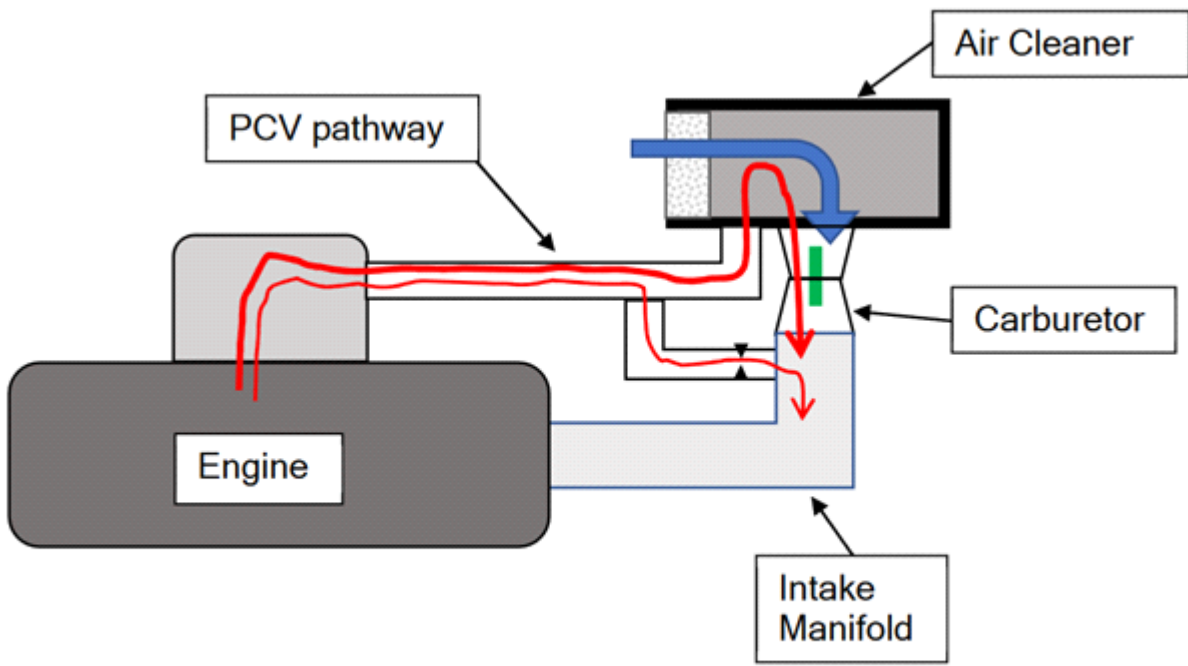

Figure 2. PCV during Wide Open Throttle
- **WIDE OPEN THROTTLE** –When the engine is under load or operating at higher RPM, a higher quantity of crankcase gas is produced. The pressure build-up in the crankcase is sufficient to not only open the PCV valve (or overcome the restriction of the orifice) - thus not only forcing a portion of the crankcase gas into the intake manifold, but also causing the remaining portion of the crankcase gas to be forced into the air cleaner. The fact that the gases are introduced both before and after the carburetor means that a greater quantity of crankcase gas can be added to the intake system without compromising the operation of the engine. It’s also worth mentioning that the throttle is open enough to produce a positive airflow through the air cleaner to ensure the crankcase gases do not escape out to the atmosphere. Refer to figure 2.